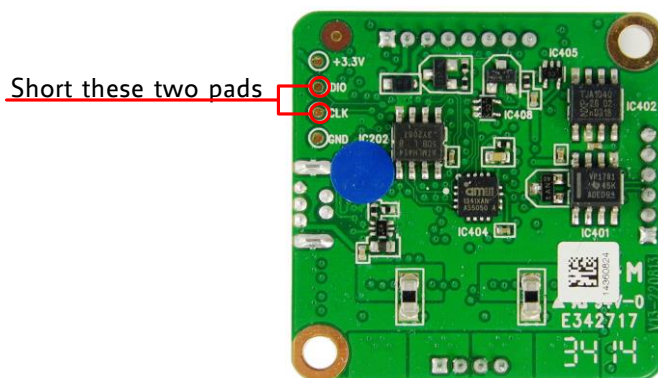

Figure 6.1 Reset to factory default settings
For this procedure it is necessary to disassemble the PANdrive™ and shorten two pads on the bottom side of the printed circuit board (see Figure 6.1).
2. Short two pads as marked in Figure 6.1